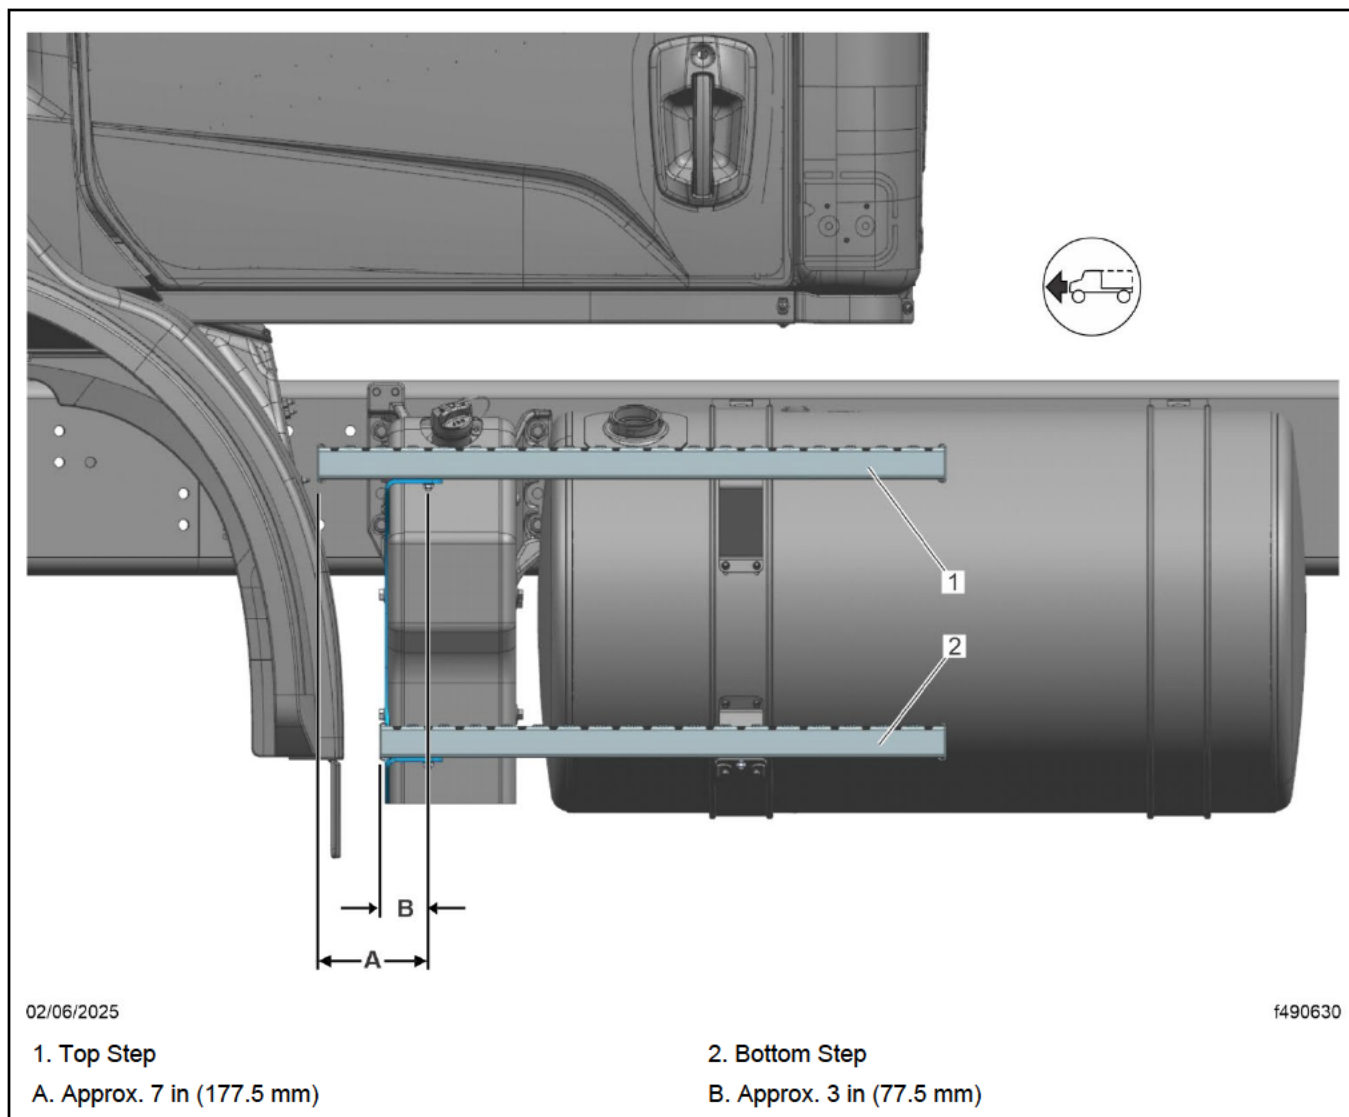

Fig. 3, Positioning the Tread Retaining Bars Holding the Steps
25. Position the tread retaining bars that hold the steps to the fuel tank band brackets, and if required, adjust the position of the treads as shown in Fig. 3. Tighten the tread retaining bars 9 lbf·ft (12 N·m).